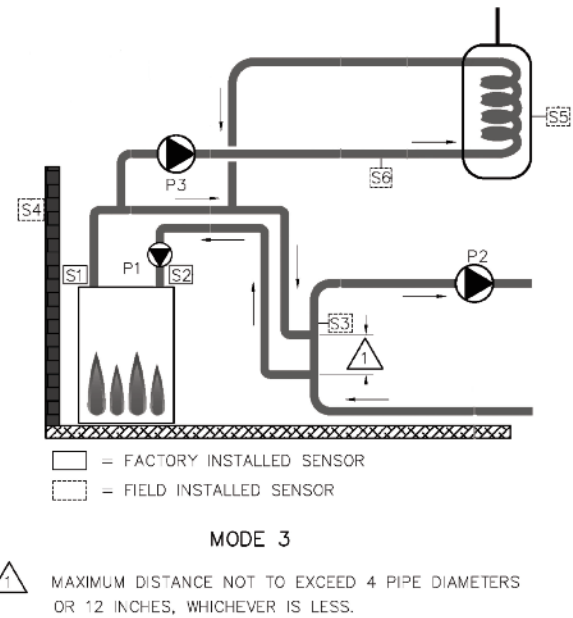

Fig. 16: MODE 3 - Single Boiler with Indirect on Boiler Loop
- With the heater operating at 100% firing rate, set Valve A (the bypass) to ½ open position, and Valve B to fully open position. See Fig. 16.
- If this process does not raise the inlet water temperature to 105°F (40°C) for Pool Heater (P) versions and 120°F (49°C) for Hydronic Heating (H7) or Domestic Hot Water (WH7) versions and Valve A is fully open, then slowly throttle Valve B closed to increase the inlet water temperature to the required temperature.